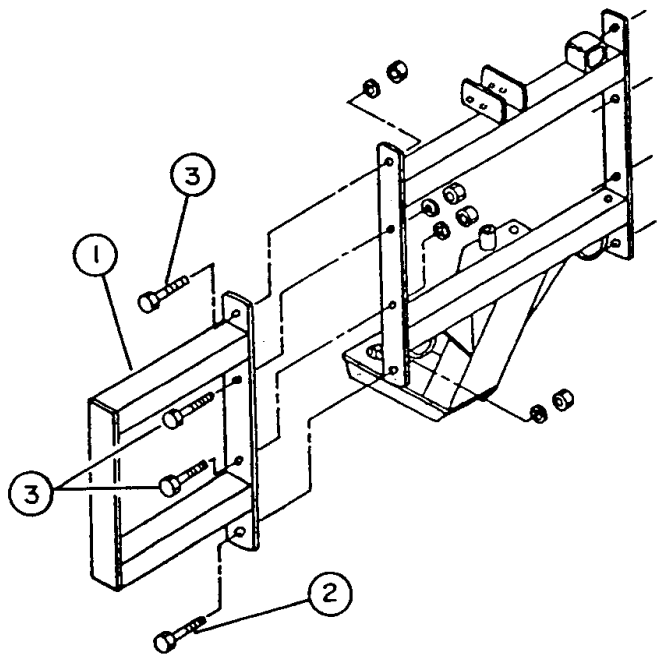

Figure 4
1. Assemble loader arm adapters (fig.4, item 1) to 3 point hitch using two 7/8" x 2" bolts (fig.4, item 2), lockwashers and nuts in lower holes, and six 5/8" x 1 1/2" bolts (fig.4, item 3), lockwashers and nuts in other holes.